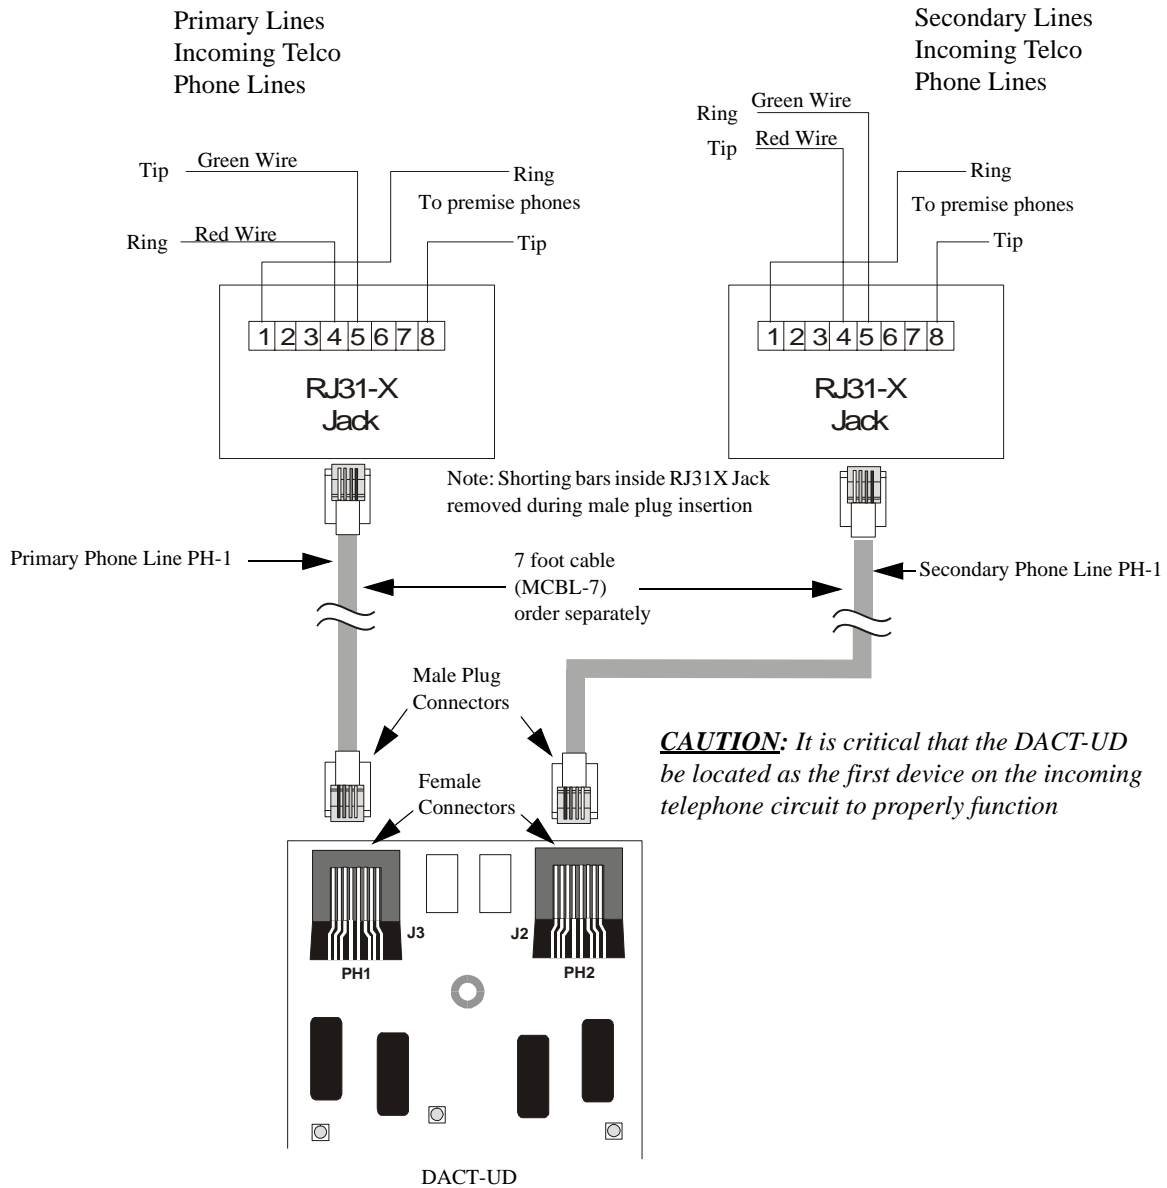

Figure 2.14 Wiring Phone Jacks
9. Refer to the Telephone Requirement and Warnings section of the DACT-UD Installation and Programming Manual Document #51889, before proceeding with this step. Connect the premises primary and secondary phone lines to the DACT as illustrated in Figure 2.14 and test the system for correct operation